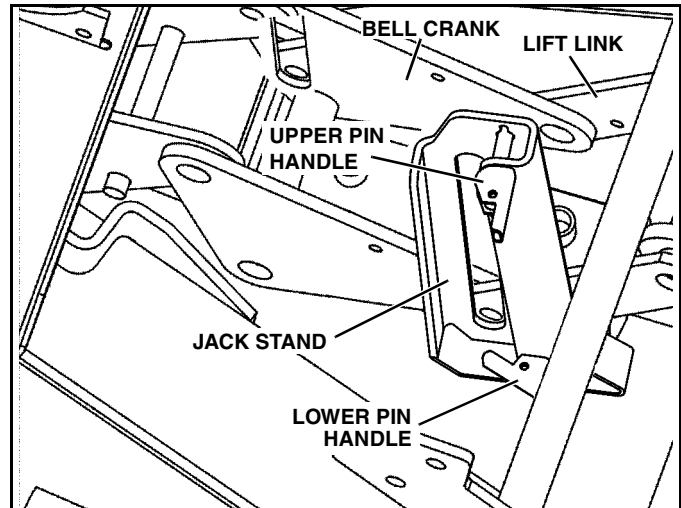

Figure 1-20
6. Disengage both jack stand pins by pulling on handles. Raise the jack stand and engage the bottom pin by pushing on the handle. Make sure pin is engaged in hole by rotating jack stand back and forth. (See Figure 1-20).